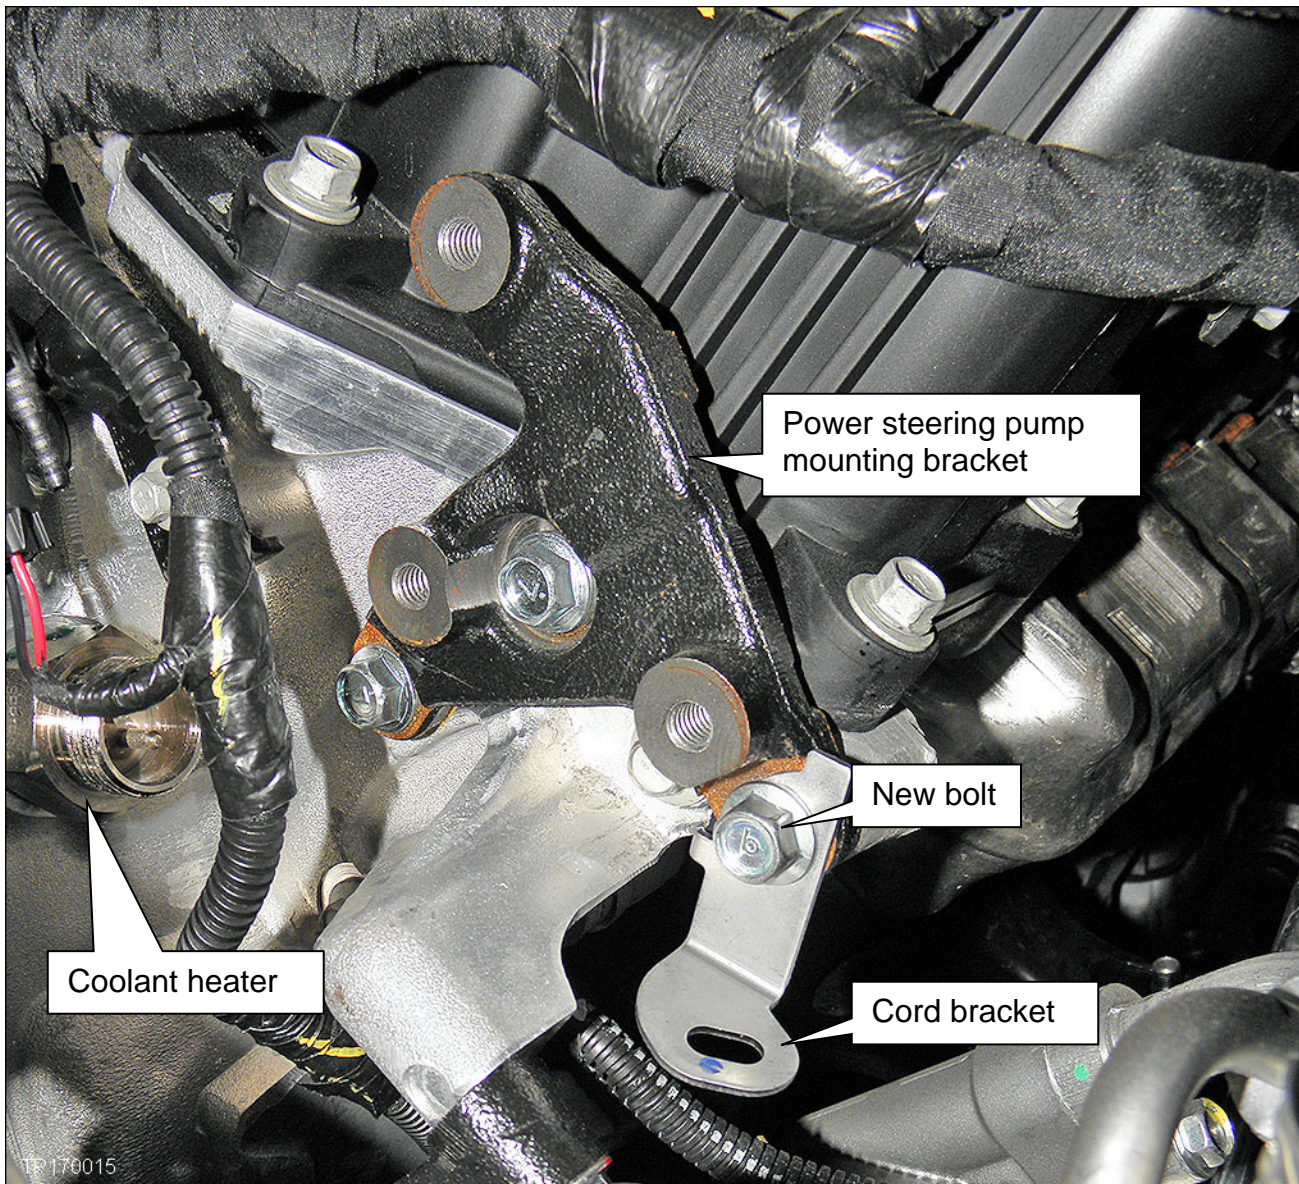

Figure 5
9. Attach the coolant heater cord bracket as shown in Figure 5.